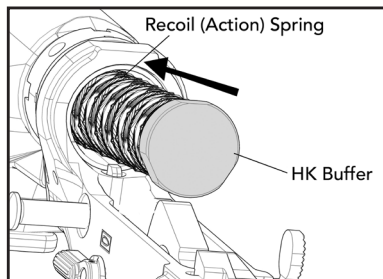

Fig. 55 – Installing buffer & action spring
d. Ensure that the hammer is in the down (cocked) position before attempting to install the buffer and action spring. Mount the action spring onto the buffer and insert the buffer and spring into the receiver extension. Push back on the buffer far enough until the buffer is retained by the spring loaded buffer detent (Fig. 55).